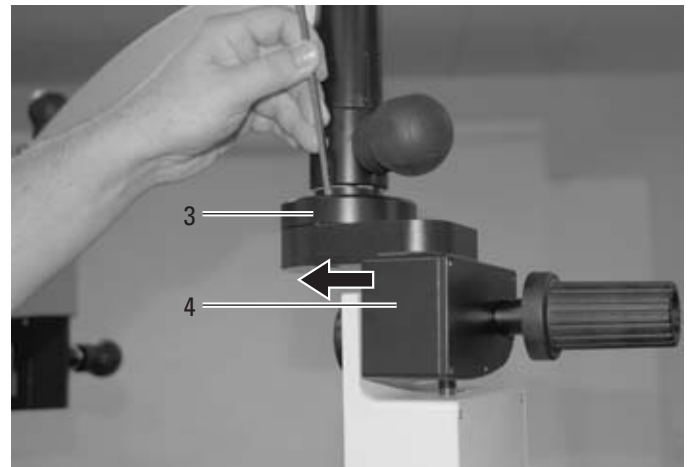

Fig. 3
⇒Insert the tilt drive (4) into the dovetail guide of the rotatable joint (3) and screw it tight with 2 Allen screws (Fig. 3).